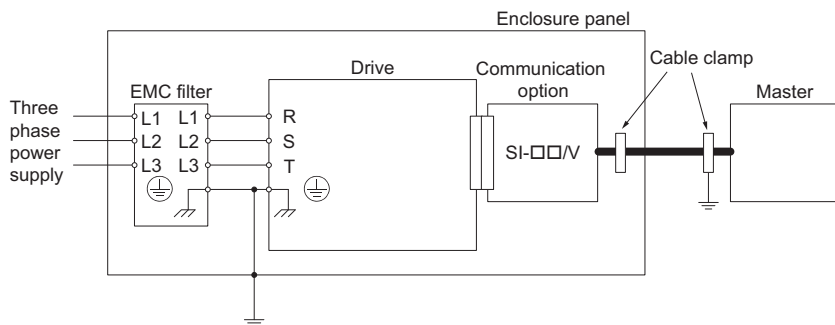

Figure 43 Option Installation for CE Compliance
- Keep wiring as short as possible and ground the largest possible surface area of the shield to the metal panel according to Figure 43.